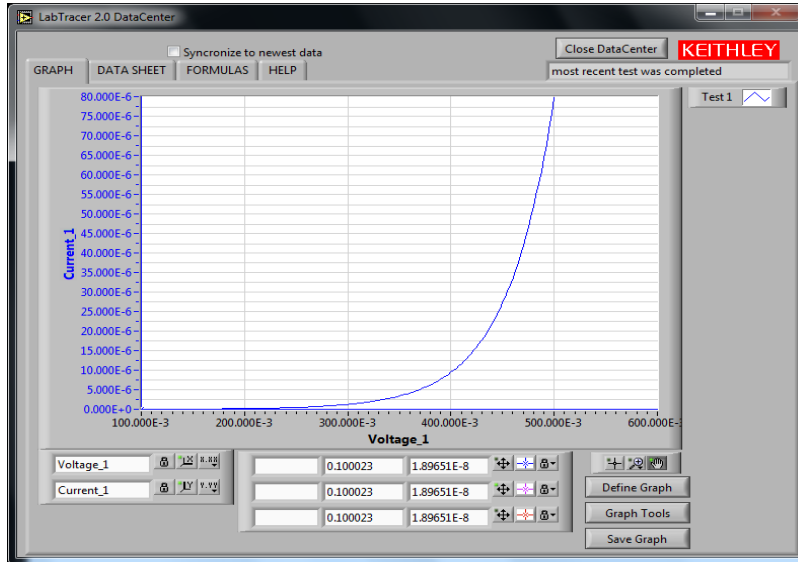

Figure 3. LabTracer DataCenter Graph of Diode IV curve. **Note:** this is not usable data. It is only shown as an example of what your data should look like.
- When completed the DataCenter window appears as shown below in Figure 3. If no plot
appears, click on the Define Graph button and select voltage for the horizontal axis and current for the vertical axis. Get help from a TA if the data is not similar to what is shown in Figure 3.